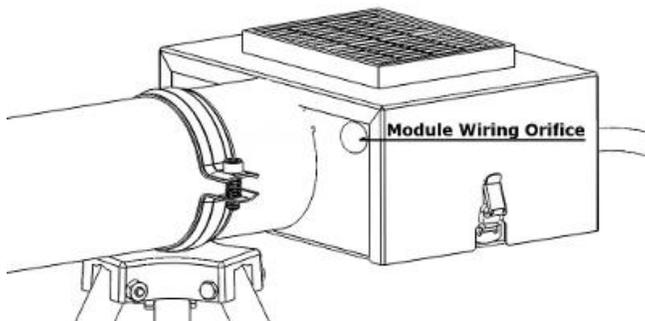

Figure 1
7. Route the motion sensor's electrical harness through the cannon's module wiring orifice after removing the knockout plug (Fig. 1), and ensure the harnesses' gray orifice plug is firmly seated.